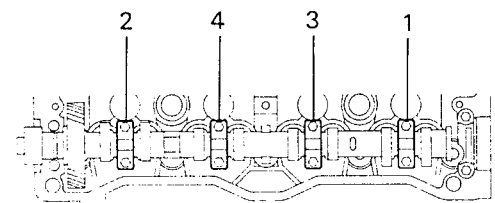

Fig. 4
- Uniformly loosen each bearing cap bolt a little at a time and in the sequence shown in Fig. 4 below.